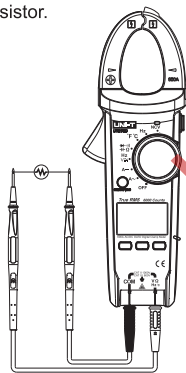

Fig. 7
6. Measurement of resistance (shown as Fig. 7)